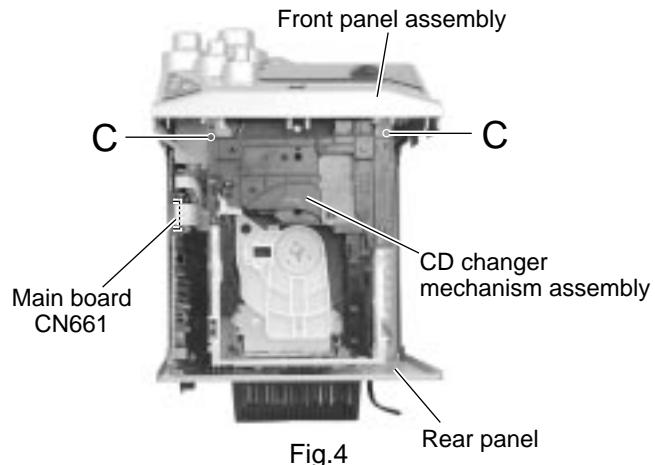

Fig.4
■Removing the CD changer mechanism assembly (See Fig.4 and 5)